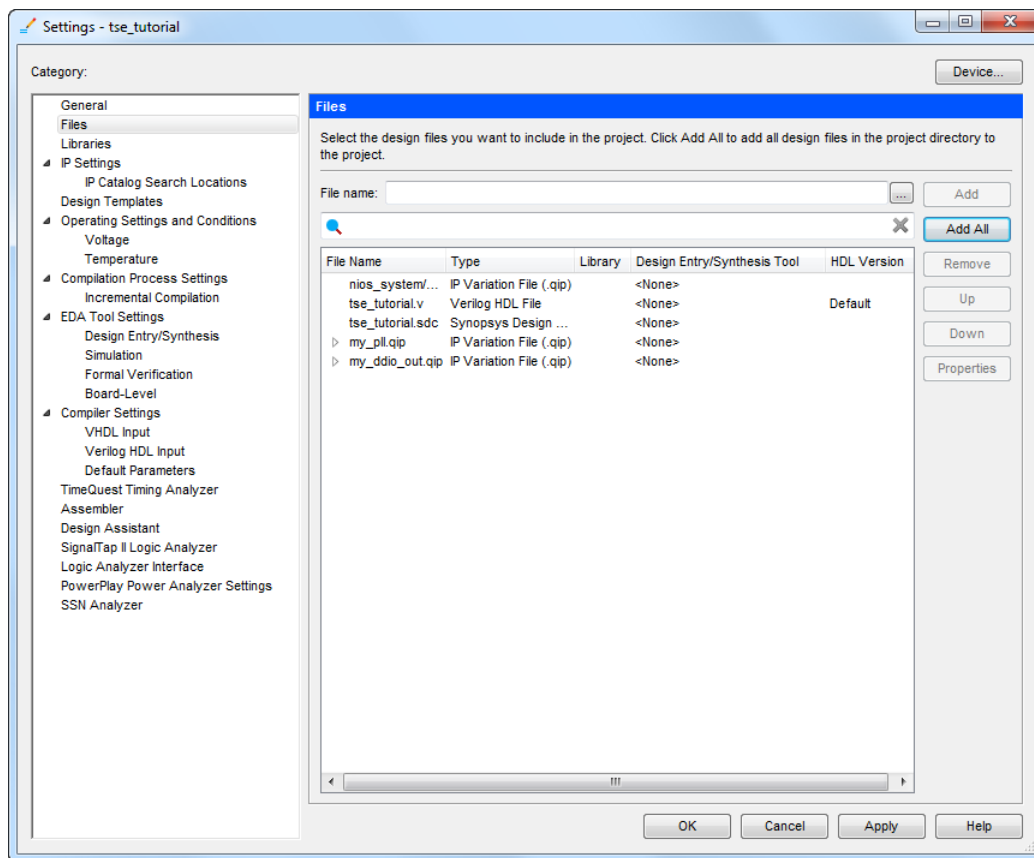

Figure 19. Settings for files included in the Project.
2. Select **Assignments > Settings...** to add the `tse_tutorial.v`, `tse_tutorial.sdc` and `nios_system.qip` files to the Quartus Prime project. Along with the `.qip` files for the two modules generated by the IP Catalog before, all the files included in the project are shown in Figure 19.